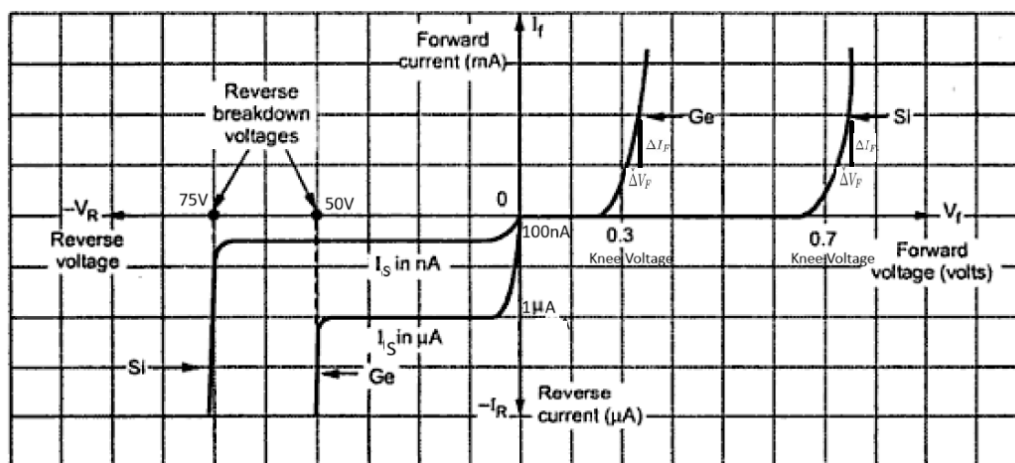

Figure 1.6: Reverse Biasing of the Diode
- As  $V_F$  increases towards knee voltage, the width of depletion region goes on reducing. When  $V_F$  exceeds knee voltage, the depletion region becomes very thin and current increases suddenly. This increase in the current is exponential as shown in the Fig. 1.6
- As reverse voltage is increased, reverse current increases initially but after a certain voltage, the current remains constant equal to reverse saturation current  $I_s$  though reverse voltage is increased. At one point, where breakdown occurs and reverse current increases rapidly is called knee of the reverse characteristics. This is shown in the reverse **VI characteristics** of the diode in Figure 1.6